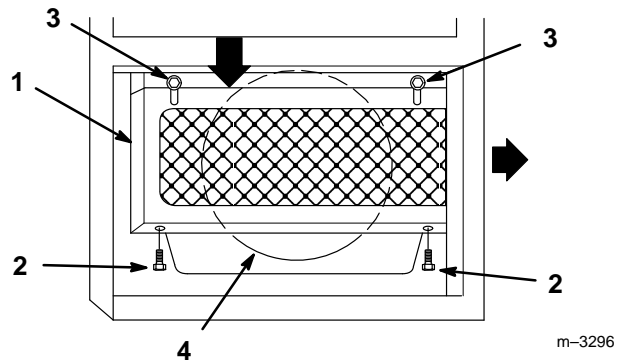

Figure 23
4. Install screen from rear and raise over oil cooler. Secure with previously removed hardware (Fig. 23).
1. To remove cooling screen remove lower bolts and loosen top bolts. Slide screen down and rearward to expose oil cooler (Fig. 23). Save all mounting hardware.
3. Clean off engine air intake (Fig. 23).